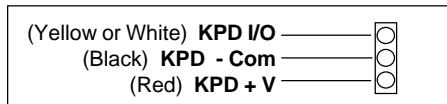

FIGURE 3 - SK1L KEYPAD WIRING
8. Refer to Figure 3, Connect the control panel wires to the keypad.